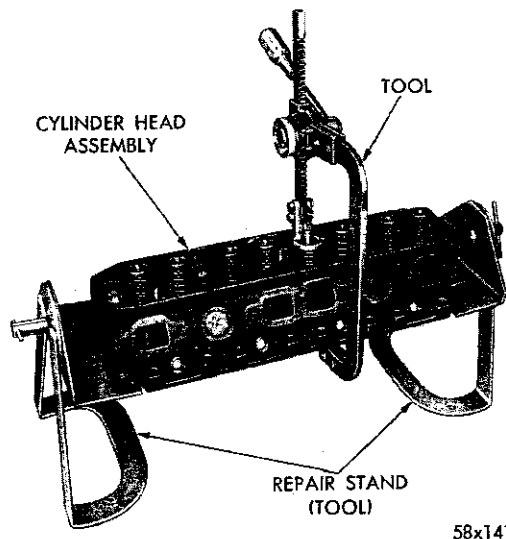

Fig. 9—Compressing Valve Spring Using Tool C-3422
(1) With the cylinder head removed, compress the valve springs, using Tool C-3422, as shown in Figure 9.
(2) Remove the valve retaining locks, valve spring retainers, valve stem cup seals and the valve springs.
(3) Remove the burrs from the valve stem lock grooves to prevent damage to the valve guide when the valves are removed.